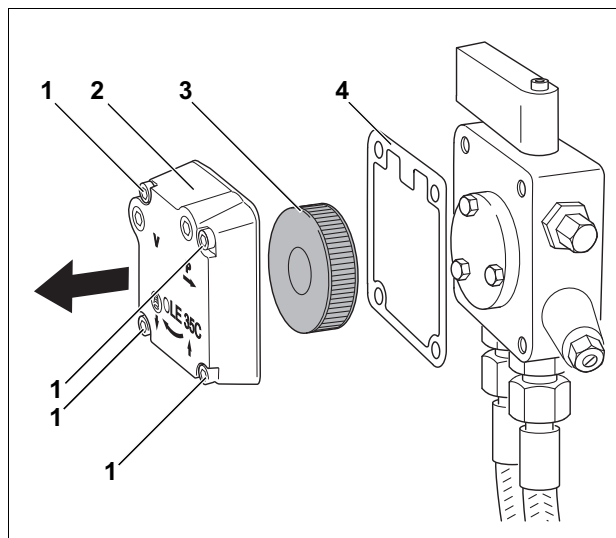

Fig. 17 Checking oil pump filter – Suntec oil pump
- Undo the four Allen screws (Fig. 17, **Item 1**).
- Remove the pump cover (Fig. 17, **Item 2**).
- Remove the oil pump filter (Fig. 17, **Item 3**).
- Check the gasket (Fig. 17, **Item 4**) for damage and replace if necessary.
- Clean the oil pump filter (Fig. 17, **Item 3**) with gasoline. Replace if excessive residue remains or filter shows signs of damage, then reassemble oil pump.